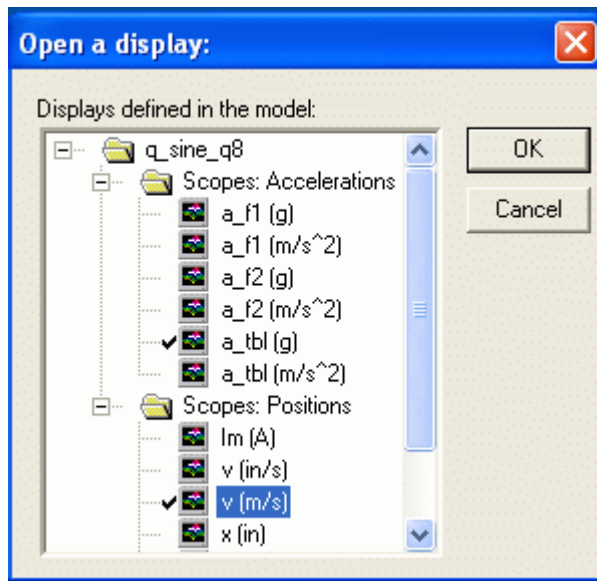

Figure 24: Selecting scopes to be opened.
3. Select the variables to view. For example as illustrated in Figure 24, to view the velocity and acceleration of the stage place a check mark on the $v(m)$ and $a_tbl(g)$ items.